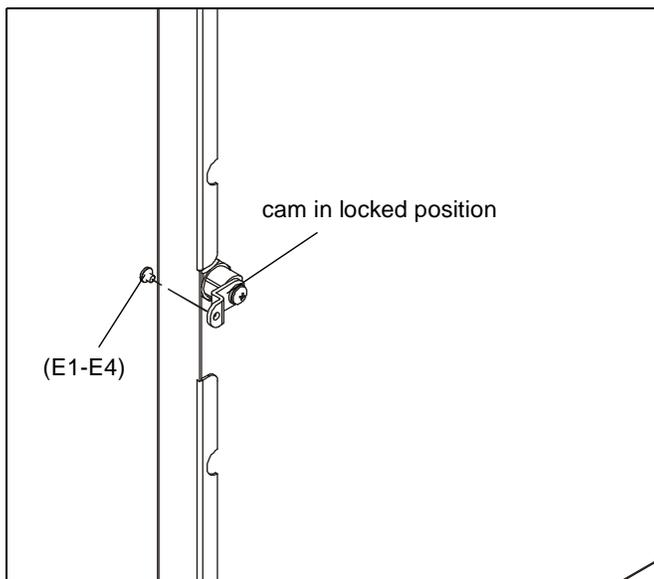

Figure 4
13. Install one of four spacers (E1-E4) into hole on cam to provide the desired spacing between cam and lock bracket. (See Figure 4)